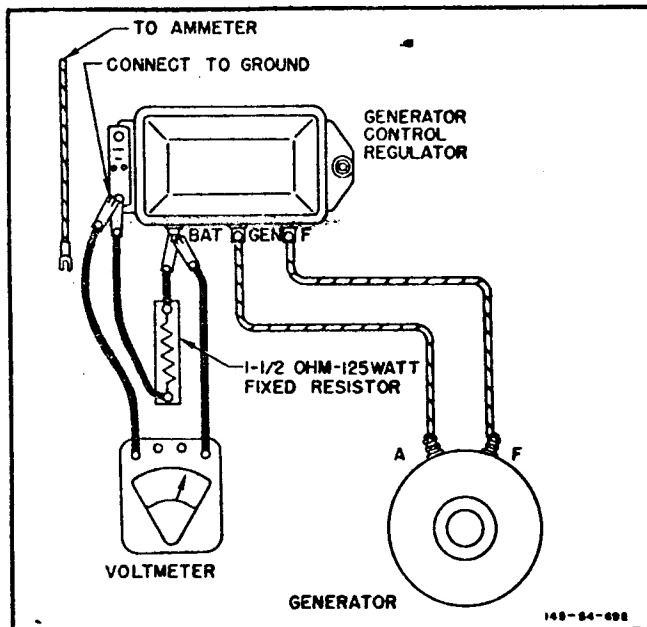

Figure 52 - TEST SET UP FOR ADJUSTING
1. Connect voltmeter and fixed resistance to voltage regulator relay, as shown in figure 52.